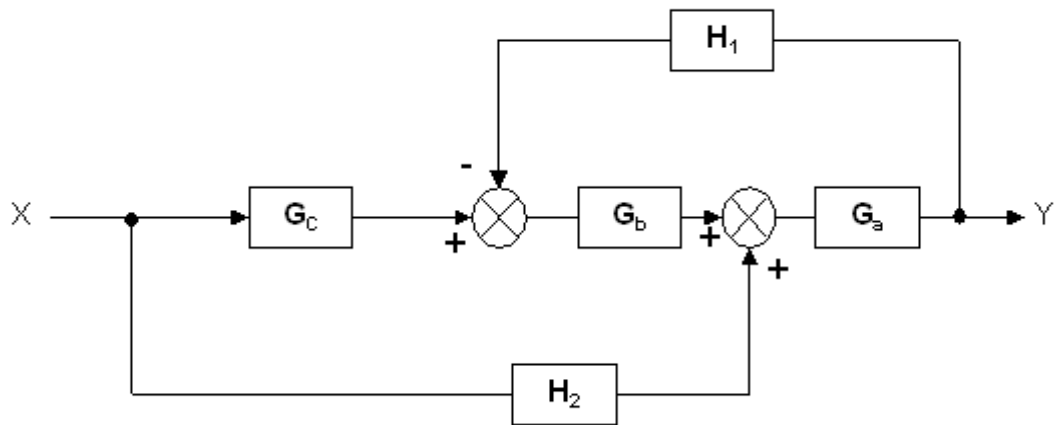

Figure 4
4. Determine the transfer function  $Y(s)/X(s)$  for the block diagram shown in figure 4. [16]